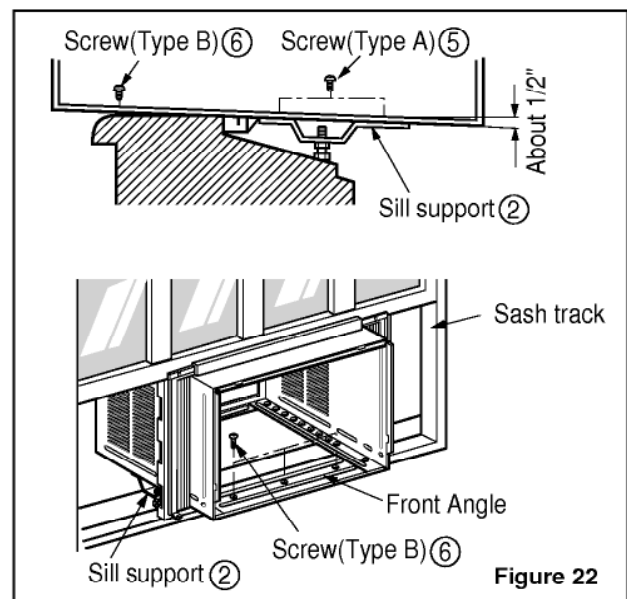

Figure 22
6. The cabinet should be installed with a very **slight tilt (about 1/2") downward** toward the outside (See Figure 22).